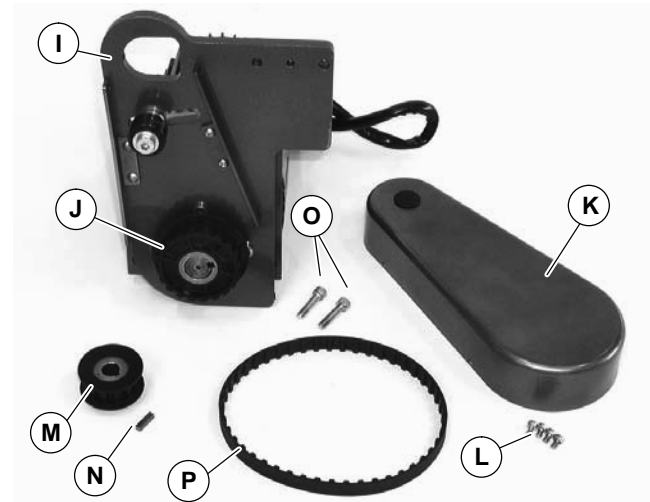

Figure 3
1. Typical components (Figure 3)
NOTE: Flat belt mounting package shown below (Figure 3), cleated belt mounting package similar.